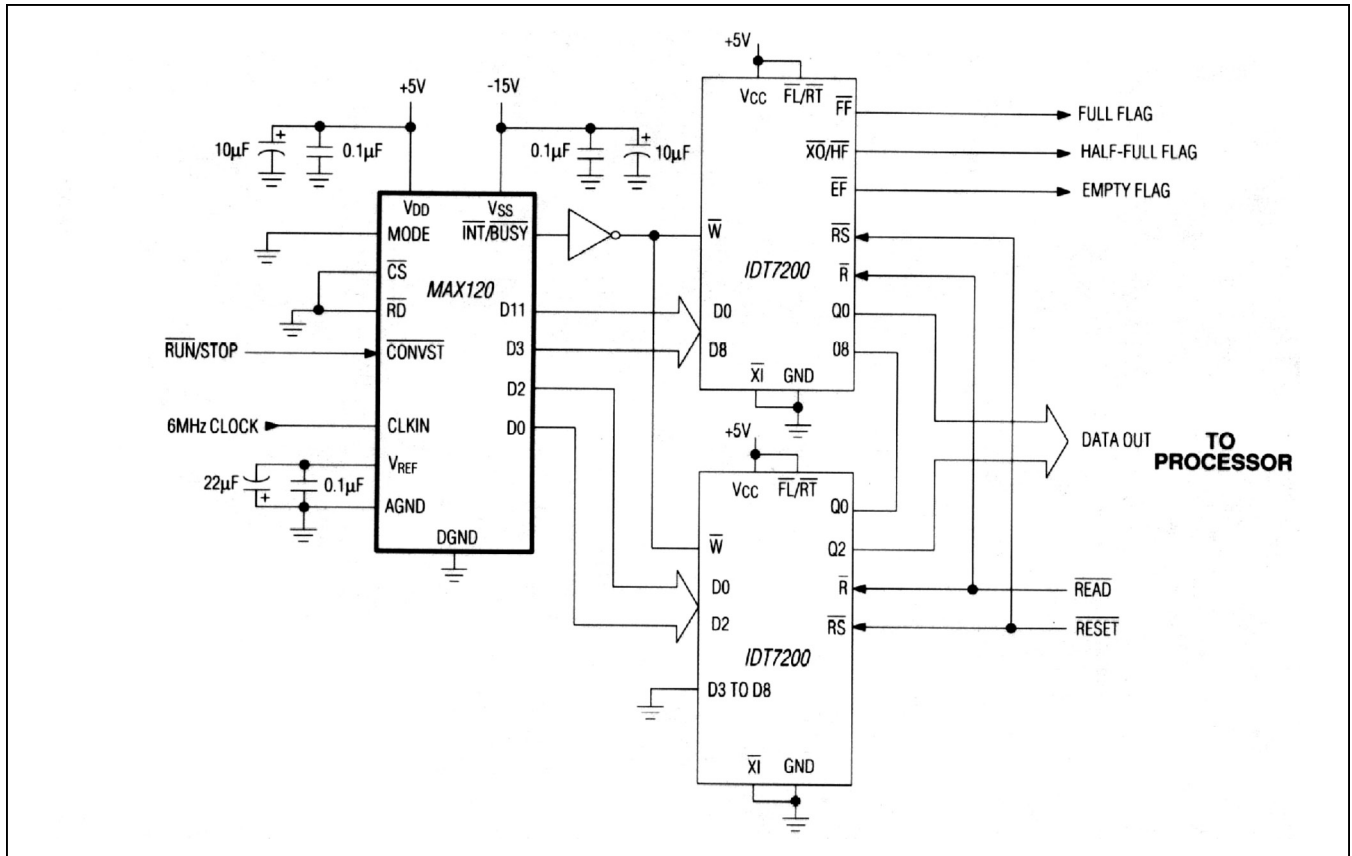

Figure 13. Using MAX120 with FIFO Memory
Using FIFO memory to buffer blocks of data from the MAX120 reduces  $\mu\text{P}$  interrupt overhead time by enabling the  $\mu\text{P}$  to process data while the MAX120, unassisted, writes conversion results to the FIFO. To retrieve a block of data, the  $\mu\text{P}$  reads from the FIFO via a read-interrupt cycle. Read and write operations for the FIFO are completely asynchronous. Figure 13 shows the MAX120 operating in continuous-conversion mode (mode 5), writing data directly into the two IDT7200 256 x 9 FIFO buffers at the rate of 428ksps. The  $\mu\text{P}$  is interrupted to read the accumulated data by the FIFO's half-full (HF) flag approximately three times per millisecond. For operation at 500ksps, use an 8MHz clock, and pulse  $\overline{\text{CONVST}}$  at 500kHz. The full flag (FF) indicates that the FIFO is full. If this flag is ignored, data may be lost. If necessary, conversions can be inhibited by pulling  $\overline{\text{CS}}$ ,  $\overline{\text{RD}}$ , or  $\overline{\text{CONVST}}$  high. The FIFO's read cycle times are as fast as 15ns, satisfying most system speed requirements. The RESET input resets all data in the FIFO to zero.